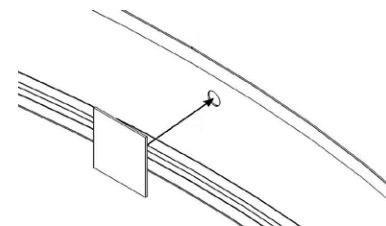

Figure 10
- From the inside of the vehicle under the hood. (Figure 10), it may be necessary to remove any foam or sound insulation that is in the way of the new system. Align holes in the cap with the hole in the shim.